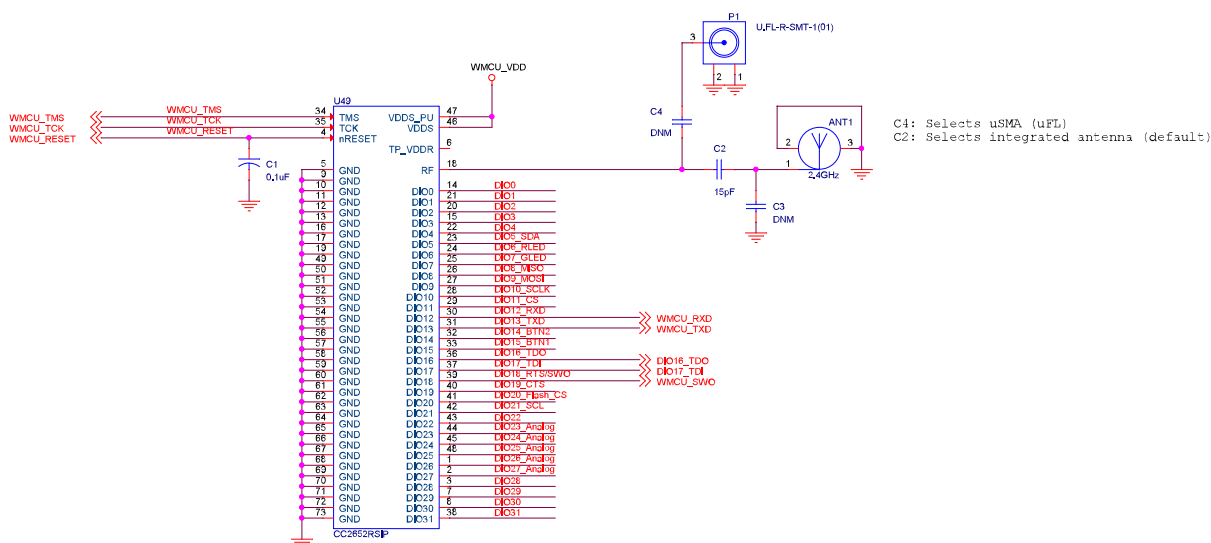

图 10-1. CC2652RSIP 典型应用示意图
Figure 10-1 shows the typical application schematic using the CC2652RSIP module. For the full reference schematic, download the LP-CC2652PSIP Design Files.
表 10-1 provides the bill of materials for a typical application using the CC2652RSIP module in 图 10-1.
In order to meet the module power-on-reset requirements, an external 0.1 μ F capacitor is required on the nRESET pin during power ON. In addition, VDD5 (Pin 46) and VDD5_PU (Pin 47) should be connected together. If the reset signal is not based upon a power-on-reset and is derived from an external MCU, then the external capacitor will not be needed and VDD5_PU (Pin 47) should be No Connect (NC). Please refer to 图 10-1 for the recommended circuit implementation and 表 10-1 for the recommended 0.1 μ F capacitor.